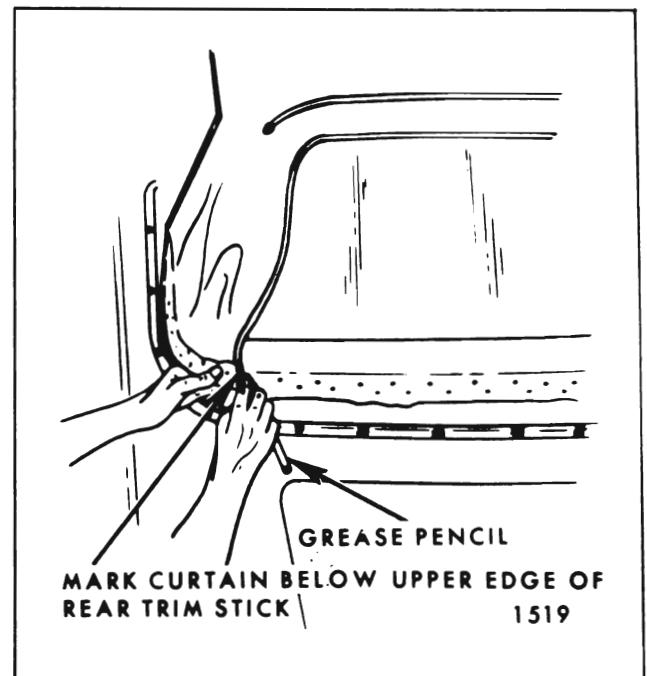

Fig. 13-7 — Locating Edge of Top Material
20. To establish relationship of right and left inner vertical edge of old top material to back curtain assembly at rear trim stick location, mark back curtain material at both locations with a grease pencil (Fig. 13-7). Reference marks should be transferred to new back curtain when step 6 of installation procedure is performed.